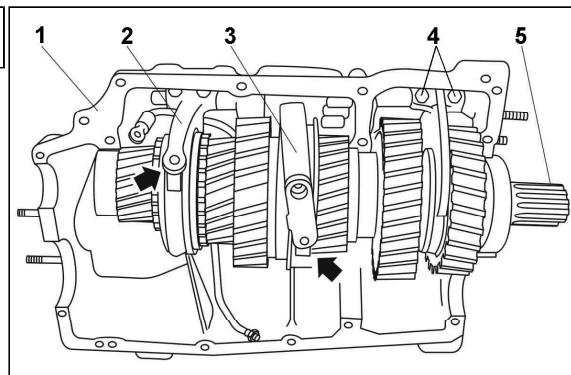

Fig. 3.140 Installation of the output shaft
Slide the 1st speed - reverse speed shifter rod **6** (See Fig. 3.138) alternately into the arresting position of the engaged reverse speed + 1st speed and the neutral gear position. Hereby the shifter rod is set by means of the arresting ball into a position, in which the recess plane for the blocking element on the shifter rod is parallel to the clamping plane of the shift booster and the bearing surface for the shifter finger forms an angle of 8° with the lower plane of the 2nd - 3rd gear shifter fork. Position the gearshift fork so that the faces of the coupling sleeve are in the same distance from the involute splining on the 1st speed gear and on the reverse speed gear (the sleeve must not rub against the splining, fork segments in the engaged condition must have a clearance in the sleeve groove and segments must not rub against the groove bottom). Tighten screws **4** (See Fig. 3.140) in the fork to the torque of **110 ± 10 Nm**.
80. After setting of forks and sleeves neutral positions (See Fig. 3.140) it is necessary to check whether the blocks have the same clearance in sleeves on both sides also with gear speeds engaged.